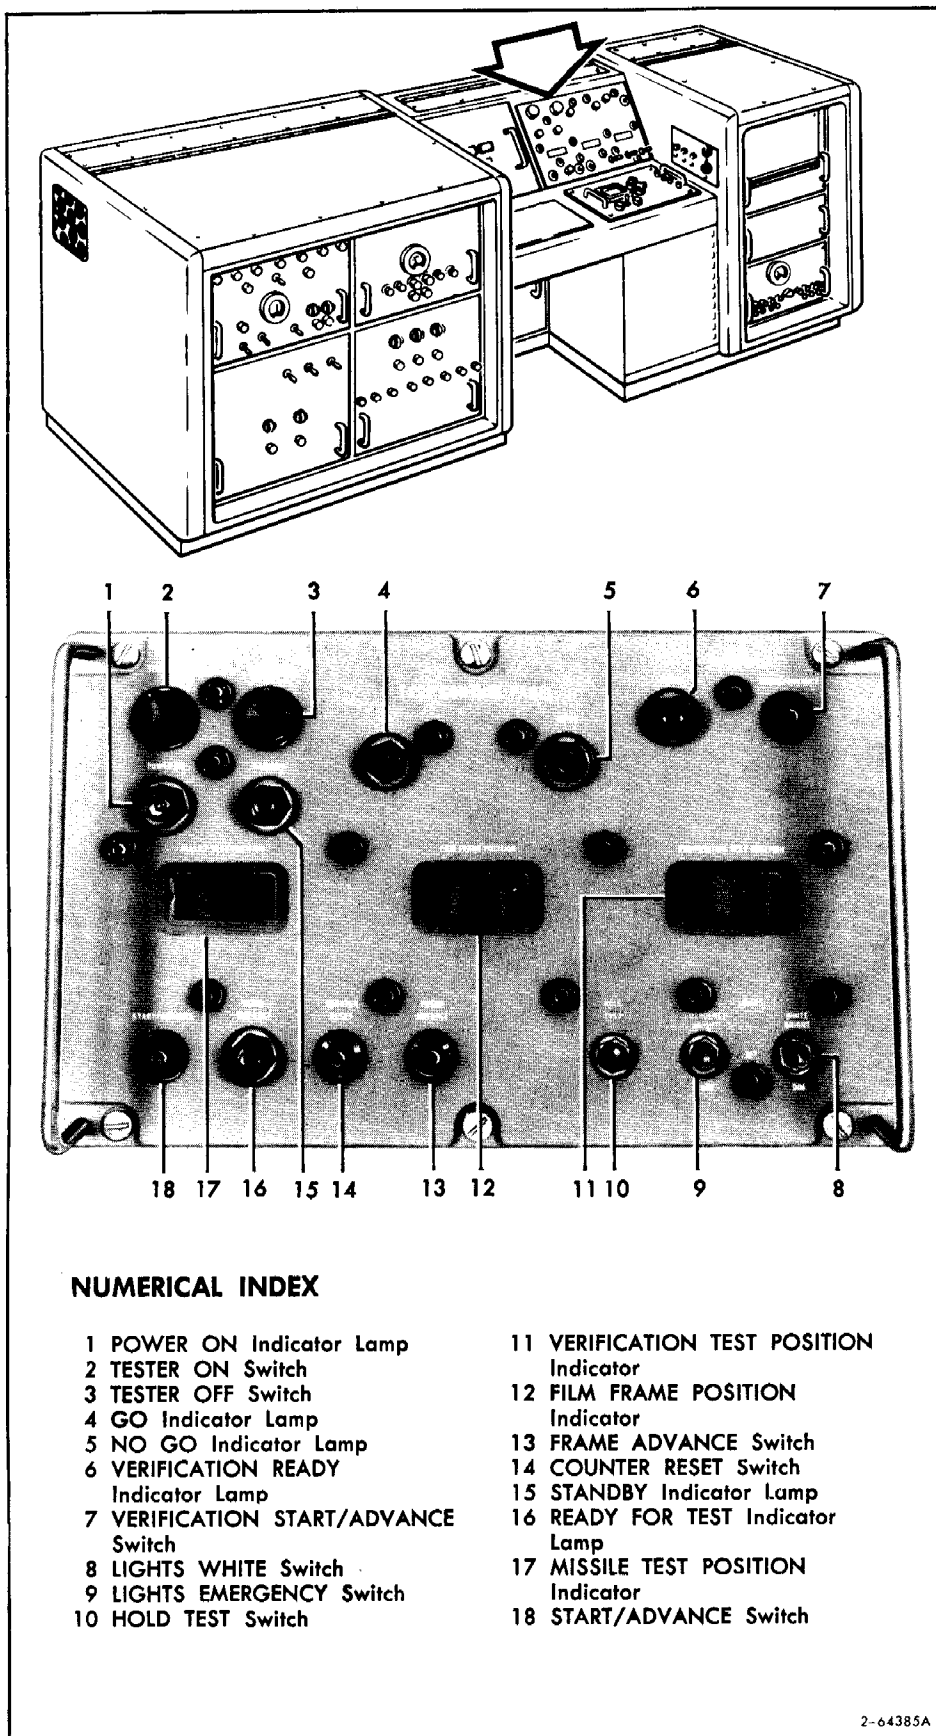
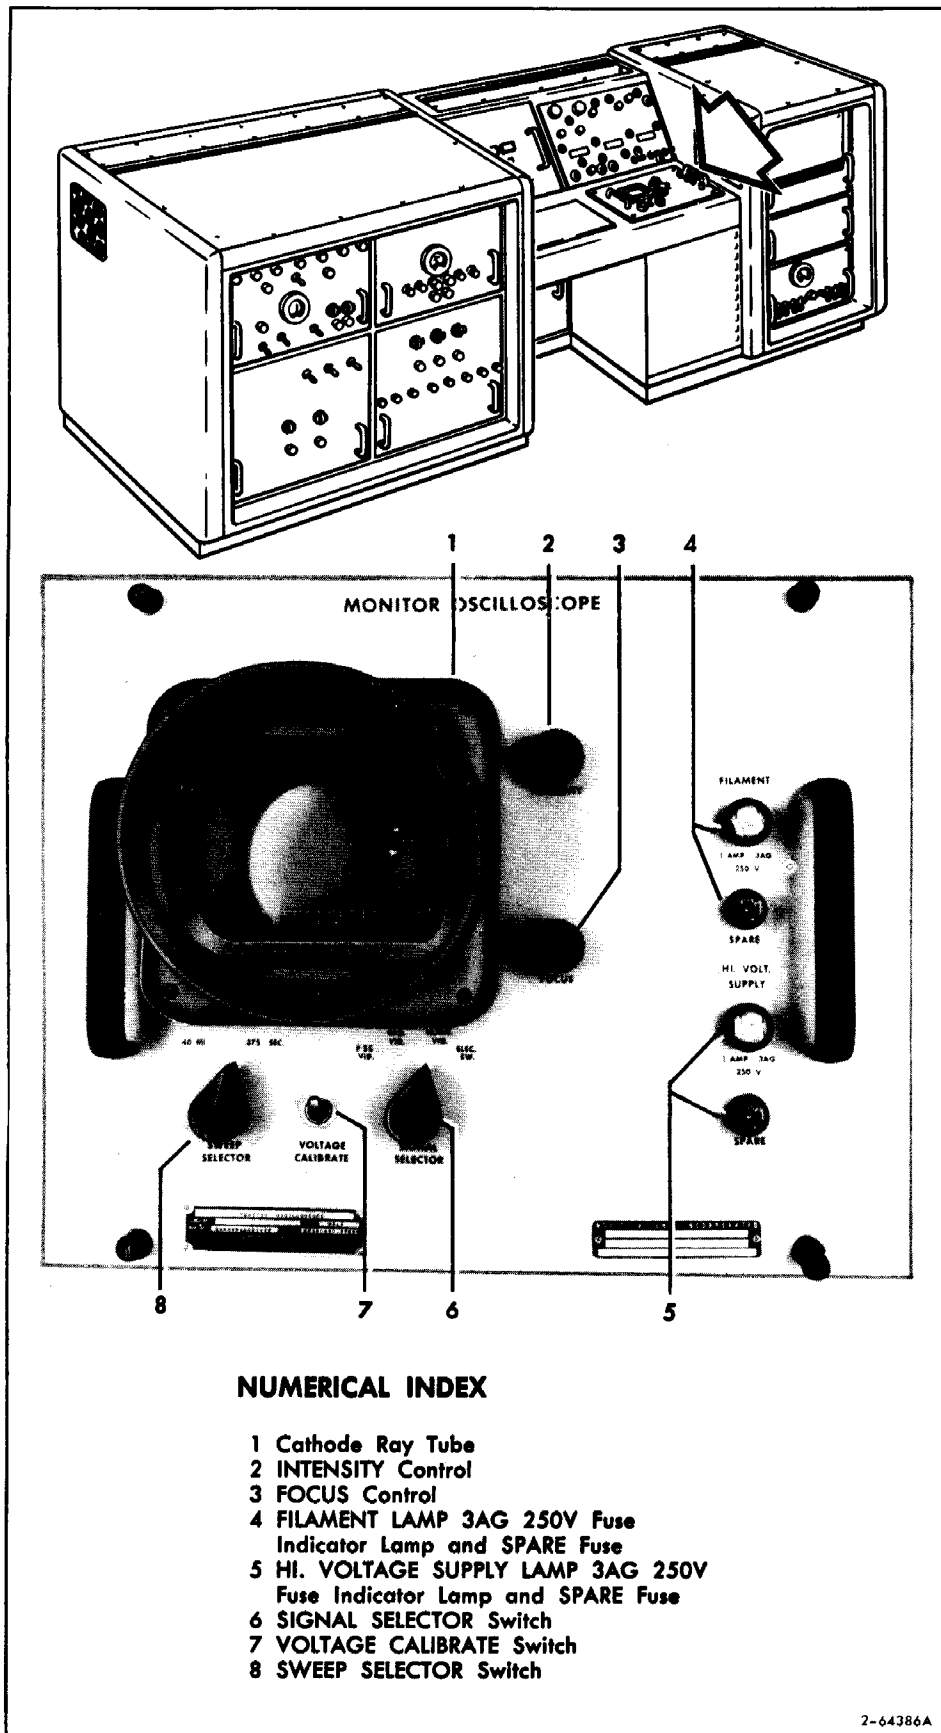

Figure 3-6. Test Control Panel
Figure 3-8. Monitor Oscilloscope
- k. 28 VDC indicator lamp (1) STANDBY indicator lamp (15, figure 3-6) on Test Control Panel must go on.
- b. Place 28 VDC LIGHTS switch (12) in on (up) position.
- c. Insure that 120V 60 TESTER POWER switch (20) is ON.
- d. Insure that 115V 400 TESTER POWER switch (18) is ON.
- e. Place heater ventilator switches (17) in desired position in accordance with instructions printed on panel.
- f. Place HOLD TEST switch (10, figure 3-6) on Test Control Panel and in the Verification unit on off (down) position.
- h. Rotate INTENSITY control (2, figure 3-8) on Monitor Oscilloscope fully counter-clockwise.
- r. Depress TESTER ON switch (2, figure 3-6) on Test Control Panel of SRP Main Console.
- s. STANDBY indicator lamp (15) must go off, and POWER ON indicator lamp (1) must go on.
- t. Place SWEEP SELECTOR switch (8, figure 3-8) on Monitor Oscilloscope to 40 MI.
- u. Place SIGNAL SELECTOR switch (6) to RAD. VID,.